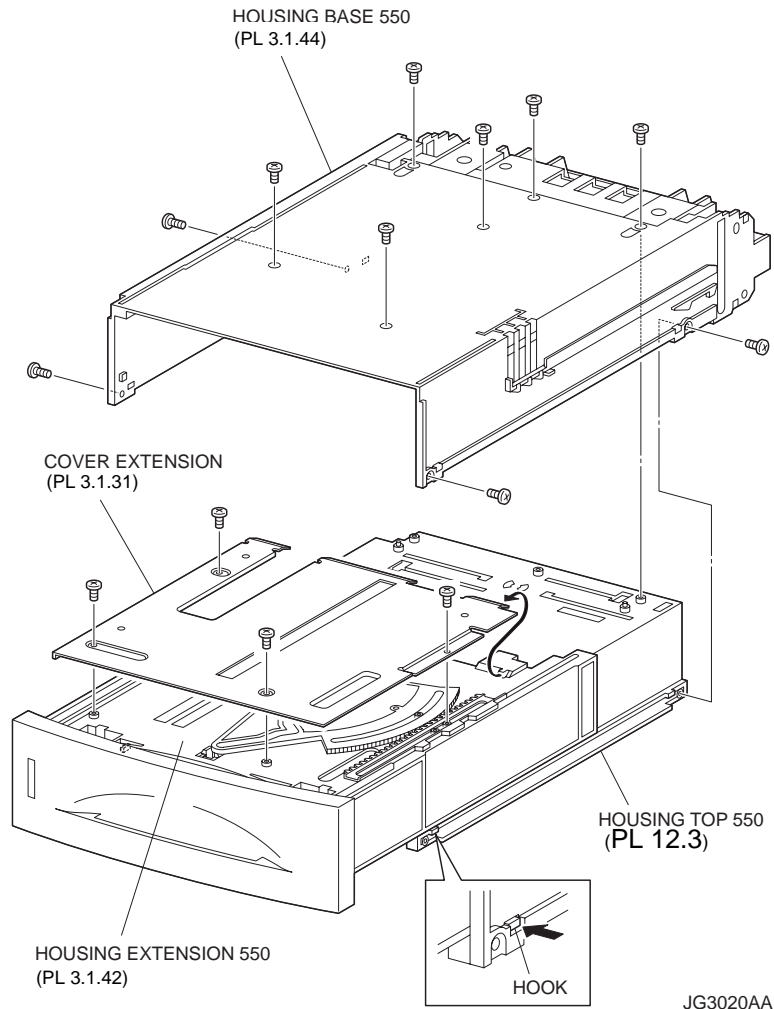

Figure 2. Housing
- 7) Remove the 2 screws (gold tapping, 8mm) from both right and left sides, as well as the 6 screws (gold tapping, 8mm) on the back (Figure 2), that secure the HOUSING TOP 550 to the HOUSING BASE 550 (PL 3.1).
- 8) Release the 4 hooks of the HOUSING TOP 550, and remove the HOUSING TOP 550 together with the HOUSING EXTENSION 550 (PL 3.1), from the HOUSING BASE 550 (Figure 2).
When installing, make sure the COVER EXTENSION is inserted under 3 claws of the HOUSING EXTENSION 550 (NOTE 2) (Figure 2).